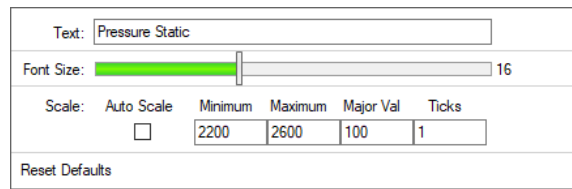

Figure 7: Axis Modification Window opened by right-clicking the y-axis
3. Set the Minimum to 2200 psia, the Maximum to 2600 psia, and the Major Val to 100 (see Figure 7)